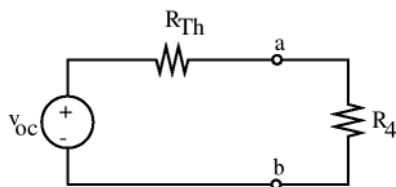

Figure 3: Thevenin Equivalent circuit connected to a load resistor
9. Build the circuit shown in Figure 3 using the same resistor for R_4 , the potentiometer for R_{Th} , and the DC power supply for v_{oc} . Adjust the terminal voltage of the power supply to the value of v_{oc} you calculated in step 6. Be sure to use the voltmeter to check this voltage!
10. Calculate the current through R_4 in Figure 3.